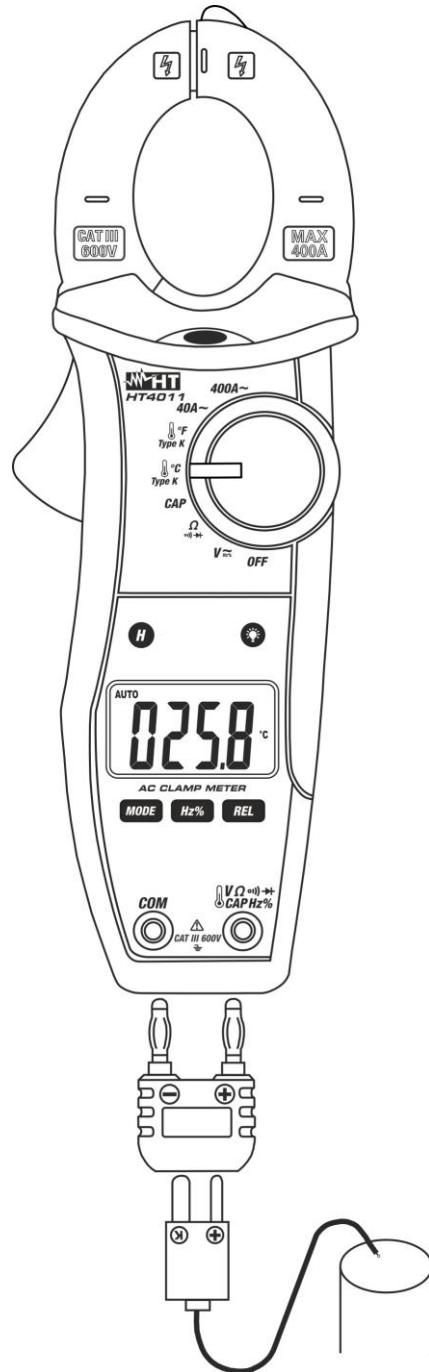

Fig. 9: Use of the clamp for temperature measurement with type K probe
2. Insert the K wire probe provided into input terminal **VΩ CAPHz%** and **COM** by means of the relevant adapter, respecting the polarity indicated in Fig. 9. The display shows the value of temperature.